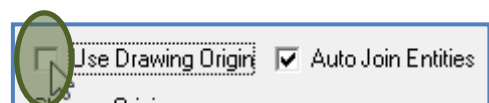

Figure 11
- In the Define Billet Window un-tick the "Use Drawing Origin" box (Figure 11).